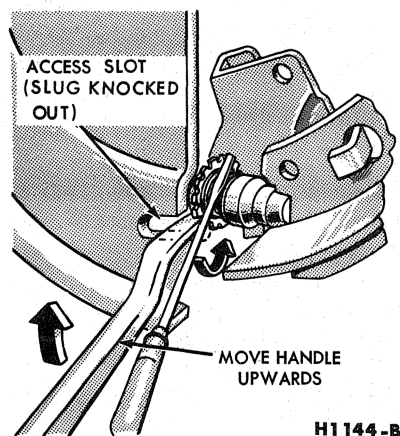

FIG. 6—Backing Off Brake Adjustment
2. Insert a narrow screwdriver through the brake adjusting hole at the inner side of the brake backing plate, and disengage the adjusting lever from the adjusting screw. While holding the adjusting lever away from the screw, back off the adjusting screw with the brake adjusting tool (Fig. 6). Be very careful not to burr, chip, or damage the